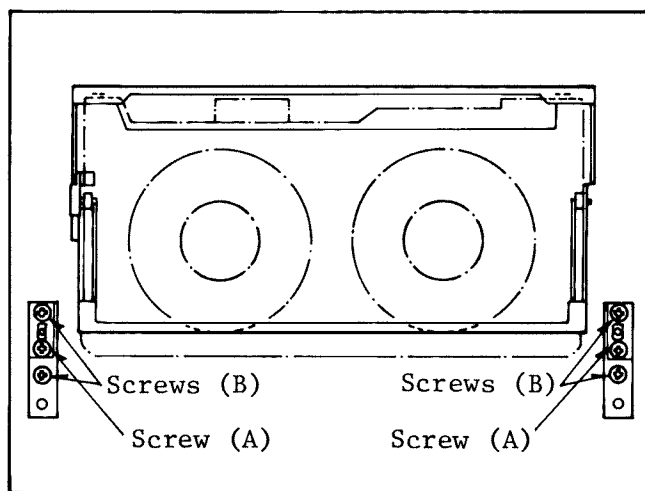

Fig. 15-1. Adjustment of Cassette Holder
2. Remove the 2 screws (A) and set the Reel Height Adjustment Plate by two setting pins tentatively. The 2 screws (A) are shown in Fig. 15-1.
3. Loosen the hex. screw (B).
5. Tighten the hex. screw (B).